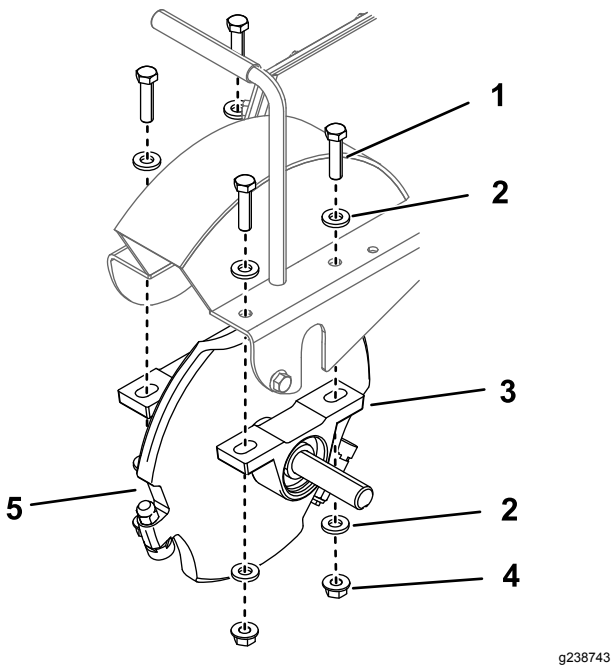

Figure 6
- 1. Flange bolt—5/16 x 3/4 inch (3)
- 2. Locknut—5/16 inch (3)
8. Remove the cutter wheel (Figure 6).